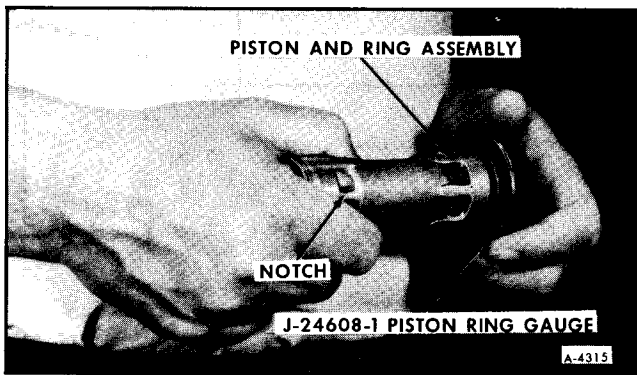

Figure 89—Gaging Piston Ring Size
3. Set the piston on end on a clean, flat surface and install the Ring Installer Guide J-24608-2 on the end of the piston (figure 89).